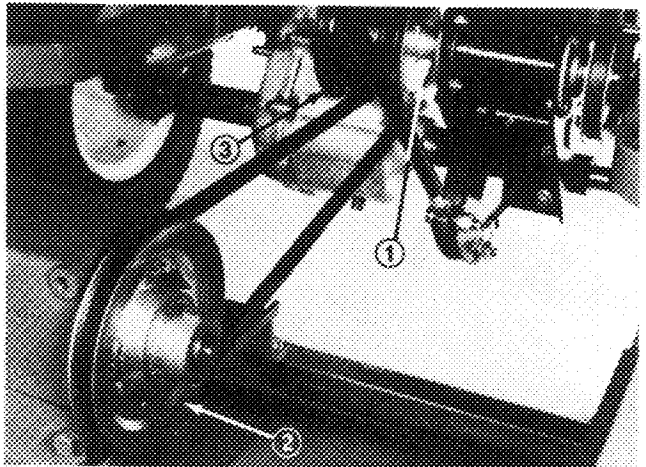

Figure 5
2. Route belt around gear box pulley and jack shaft (Fig. 5).
3. Raise idler pulley and place over upper portion of belt (Fig. 5).